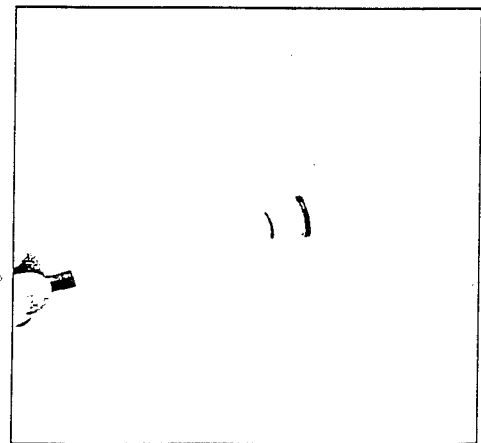

Figure 23
- 4) The adjustment piece is then removed by unscrewing it from the pressure cylinder. Once the O-rings are replaced, apply a small amount of grease to them and reassemble. (See Figure 23). Note: The adjustment piece has been painted white for clarity of the O-rings in photo.